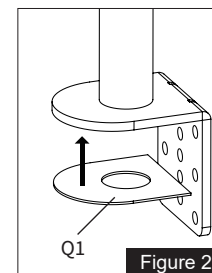

Figure 2
2. Attach soft pad **(Q1)** to the clamp brace **(C)**, see Figure 2.